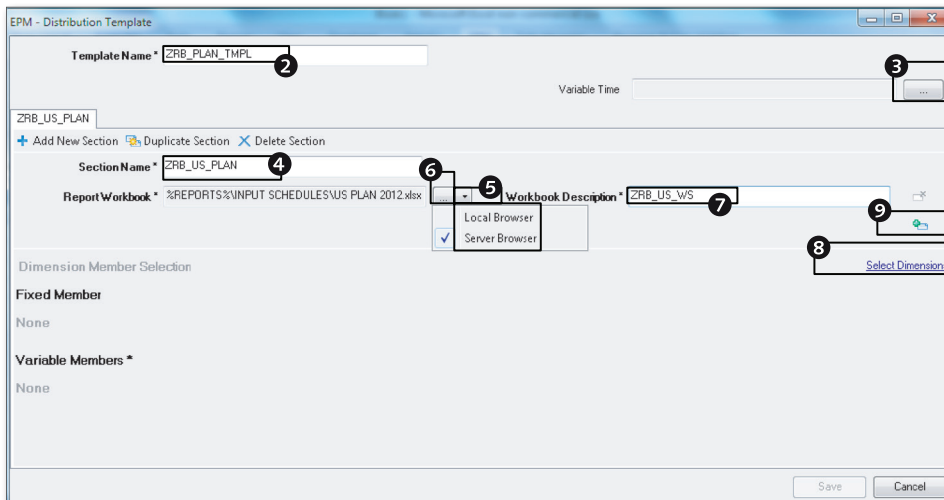
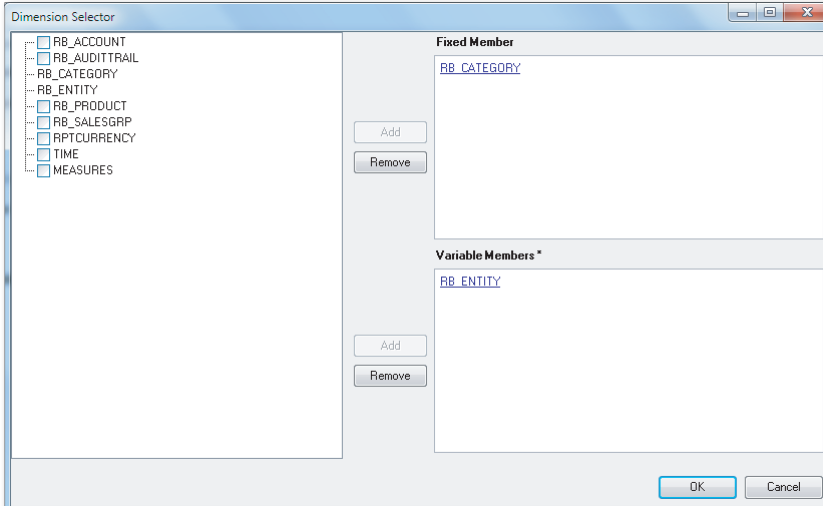

Figure 7.17 Creating a Distribution Template—Part B
Figure 7.18 Creating a Distribution Template—Part C
3. This opens a distribution template (Figure 7.17), which contains a placeholder to enter the name of a template. This applies to the entire distribution template. A distribution template can include multiple sections, and each section in turn can include multiple reports or input forms. Enter the following parameters for the distribution template:
Every distribution template has a name assigned to it. Specify the name of the template (Figure 7.17, ②).
The time member selected here overrides the value in the context pane and applies the time to all of the sections in the template (Figure 7.17, ③).
A distribution template can contain one or more sections, and a section in turn can include one or more reports and input forms. Enter the name of the section here (Figure 7.17, ④).
In this parameter, specify the report or input form you want to use in a section of the distribution template. You can select a report or input form from the SAP BPC server folder or the local desktop (Figure 7.17, ⑤ and ⑥).
Enter a description for the name of the workbook selected. For every report included in the description, it is mandatory to specify a description (Figure 7.17, 7).
Multiple reports can be added to a section by clicking on this icon, which creates a new line to specify a new report and workbook description (Figure 7.17, 9).
Click the link to specify the fixed members and variable members for the reports included in the section (Figure 7.17, 8, and Figure 7.18).